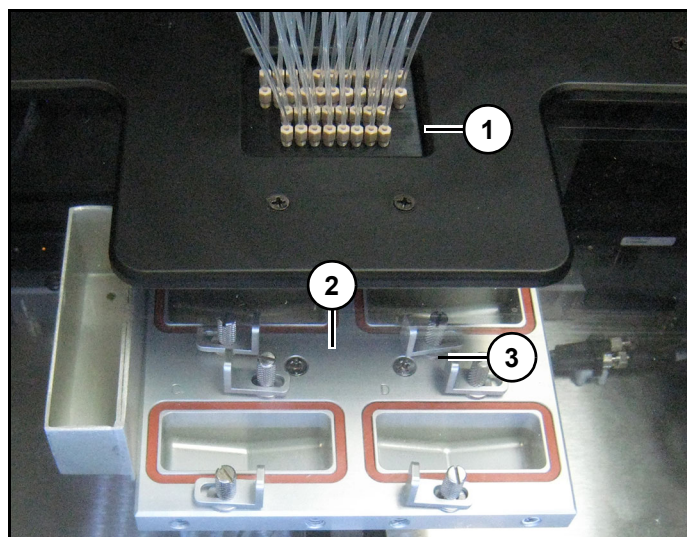

Figure 11
When performing valve calibration it is easier to open and raise Injection Head (1) (Figure 11) so that injection lines are more accessible.